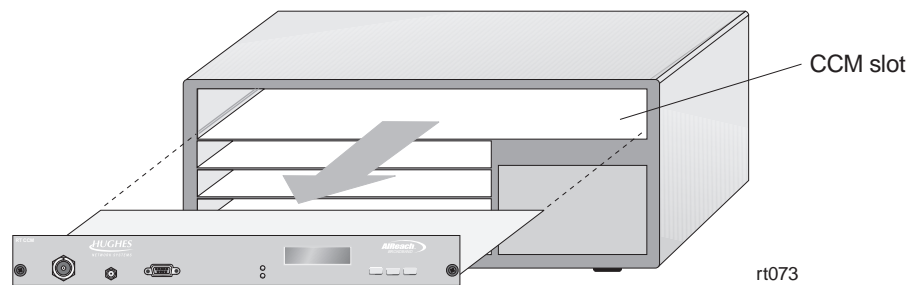

Figure 10-5 Removing the CCM
- b. Using an ESD wrist strap connected to a chassis ground terminal, slide the CCM out of its slot, as shown in figure 10-5.